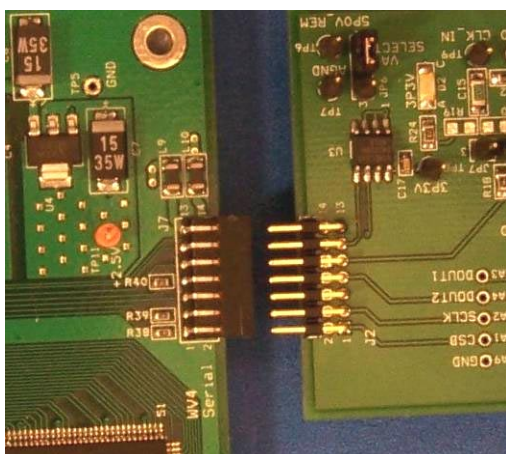
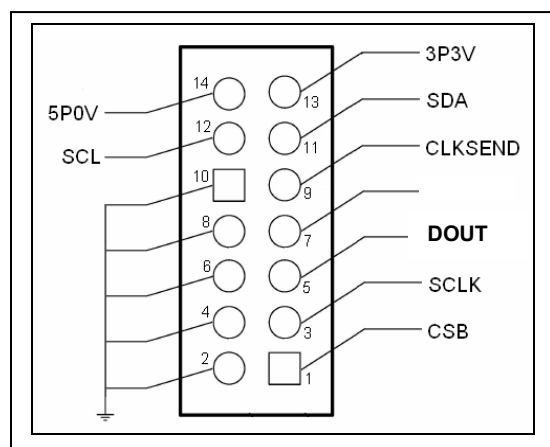

Figure 4: WV4 to ADC122S655 Connection
Figure 5: J6 (WV4S) Header Pin Out
7. Apply the signals to control the SPI interface at J6 or VIA5 to VIA7. See the evaluation board schematic (Figure 10) or the J6 header pin out (Figure 5) for more details.
3. Connect the J6 header on the ADC122S655 evaluation board to the J7 WV4 serial connector on the WV4 board. Refer to Figure 4 for the serial connection and Figure 5 for the J6 header pin out.